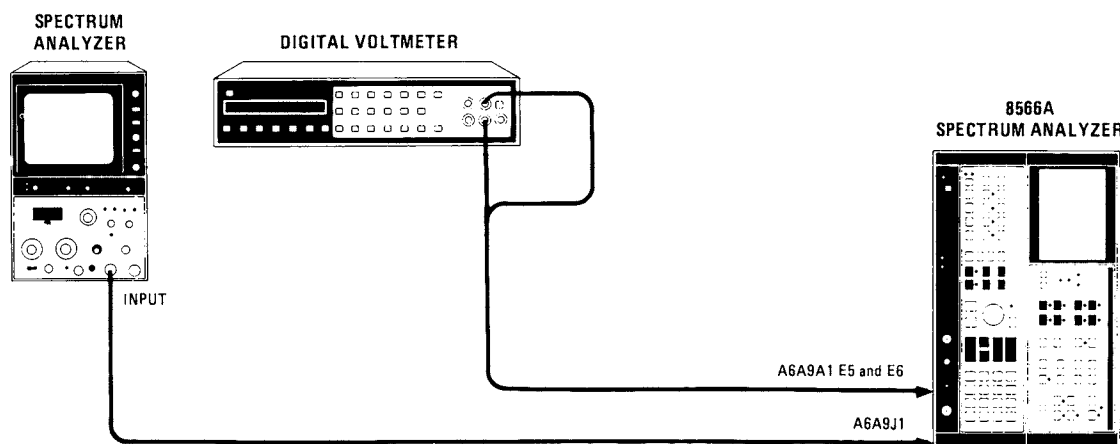

Figure 5-58. RF Module Phase Lock Adjustments Setup
1. Place instrument on right side as shown in Figure 5-58 with bottom cover removed. Disconnect 82 and 84 (gray/red and gray/yellow) cables from A6A12 and remove A6 assemblies cover.